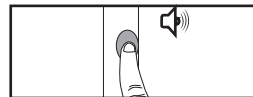

Figure 15.1; Press and Hold
On the E-Wands you wish to group together, one by one, press and hold the PROGRAMMING BUTTON ⑤ until you hear a SINGLE BEEP (1), then release [Fig. 15.1].